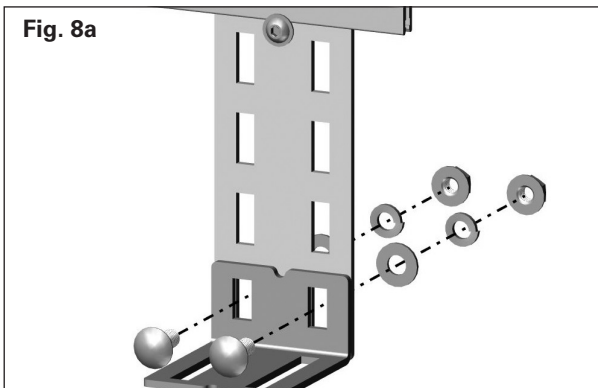

Fig. 8a
8. Determine desired position of the angle bracket (Fig. 8a). Use two bolts to loosely assemble angle bracket to vertical support at center of desired slot location (Fig. 8b).